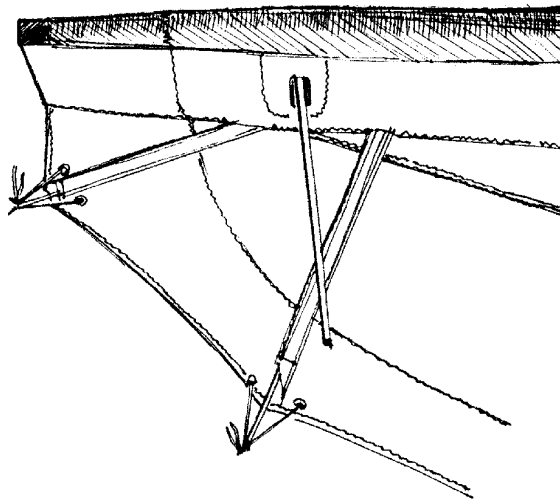

Fig.31
2.2.13. Insert washout tips into the corresponding holes in the leading edge tubes N4 (Fig.31).